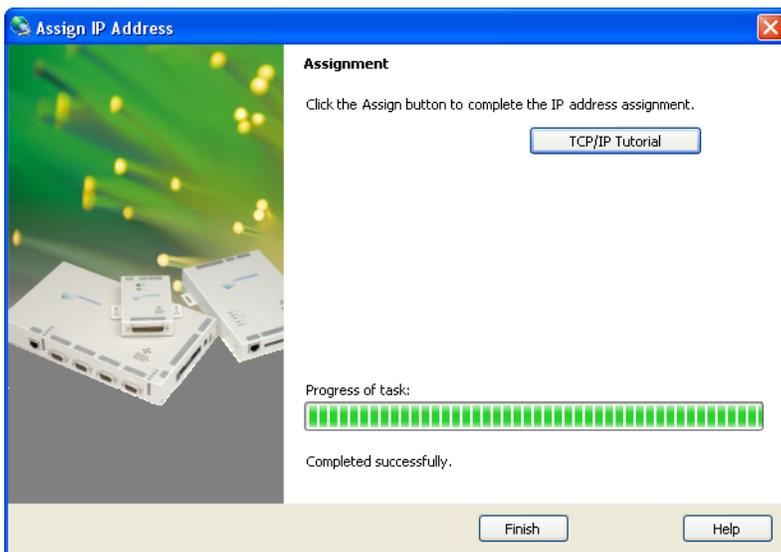

Figure 26: IP Address Assignment Successful
12. Click on the  button. The IP Address assignment begins. This process may take up to a minute. Once the process is completed, the window will display “Completely successfully” at the bottom of the window (see Figure 26).